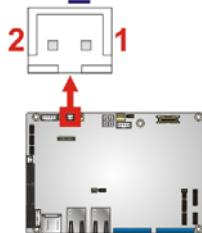

Figure 3-10: Power Button Connector Location
**CN Location:** See Figure 3-10